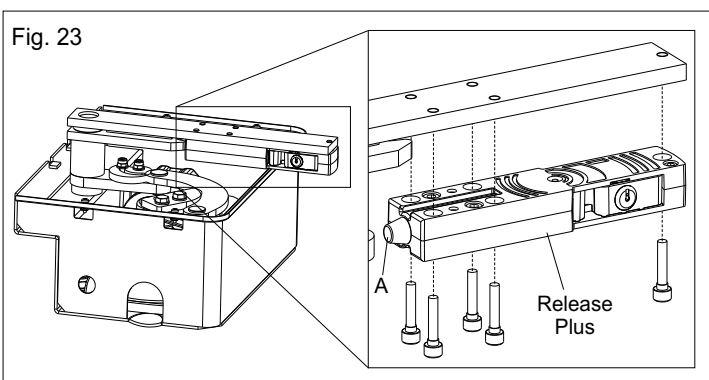

Fig. 23
5.2. Grease the hinge (A) and mount the release system under the leaf device using the 5 furnished screws (Fig. 23)